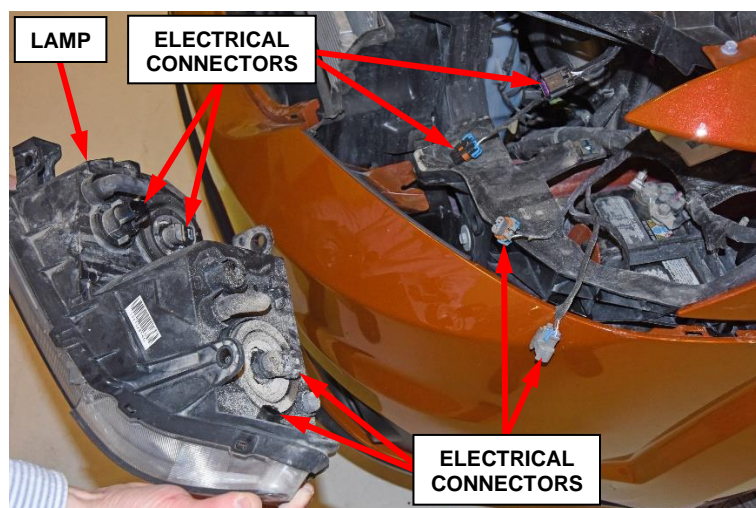

Figure 8 – Front Lamp Electrical Connectors (Left Side Shown Right Side Similar)
16. **Both right and left side of the vehicle.** Pull the front lamp away from the FEM far enough to access and disconnect the lamp bulb wire harness connectors from the back of the lamp housing (Figure 8).
17. **Both right and left side of the vehicle.** Remove the front lamp from the vehicle (Figure 8).